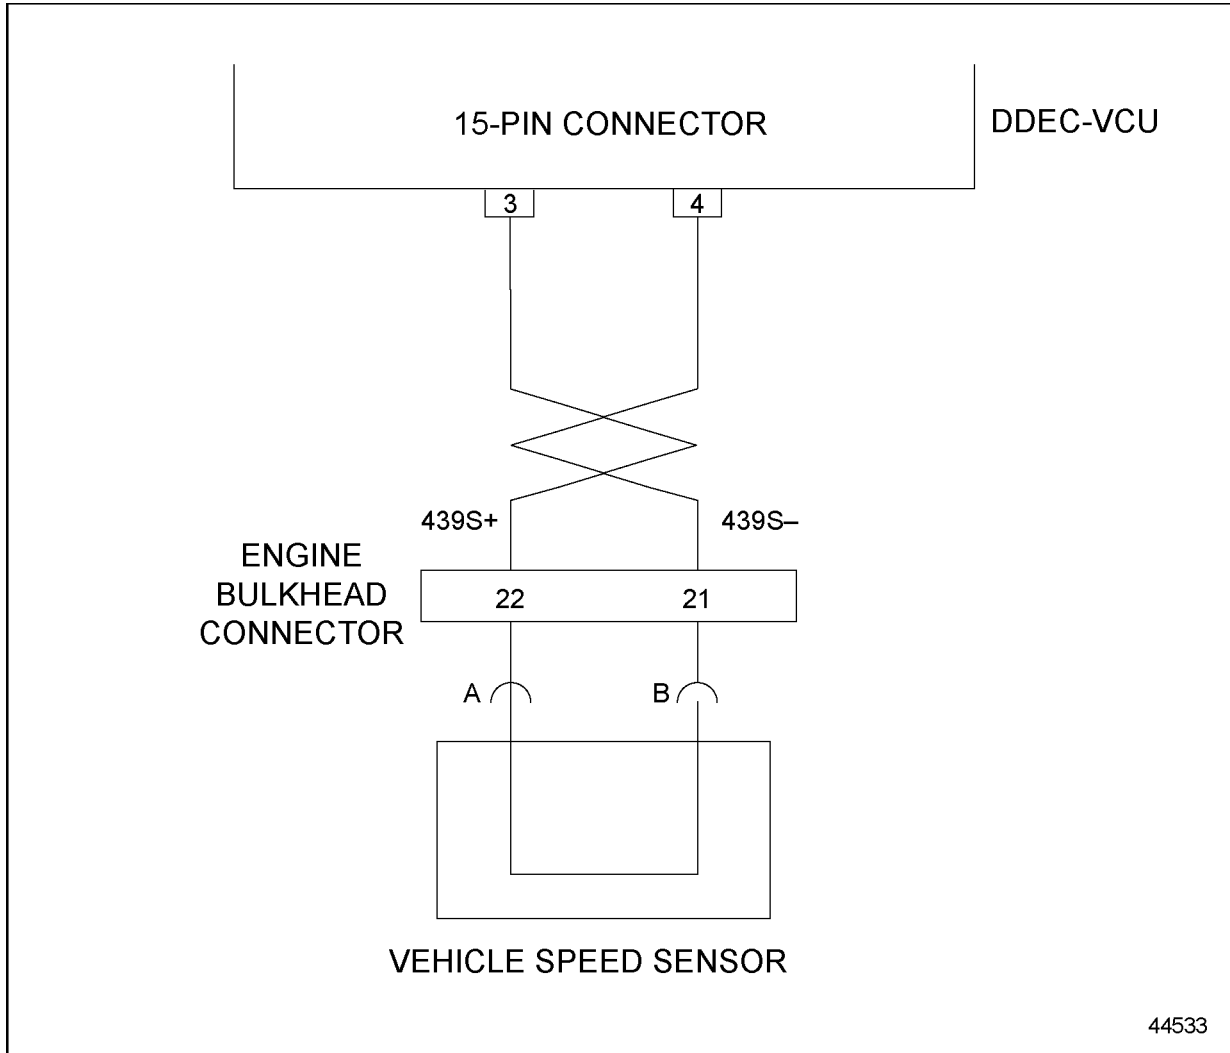

Figure 5-2 Vehicle Speed Sensor Wiring
1. Measure the voltage between wires 439S- and 439S+. See Figure 5-2.